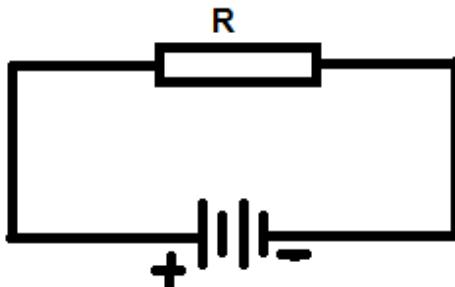

FIGURE 2.1: A RESISTOR CONNECTED ACROSS THE BATTERY
2.7 Redraw the circuit diagram in Figure 2.1 and illustrate how you would connect an ammeter and a voltmeter in the circuit. Also indicate polarity of ammeter and voltmeter leads. (5)